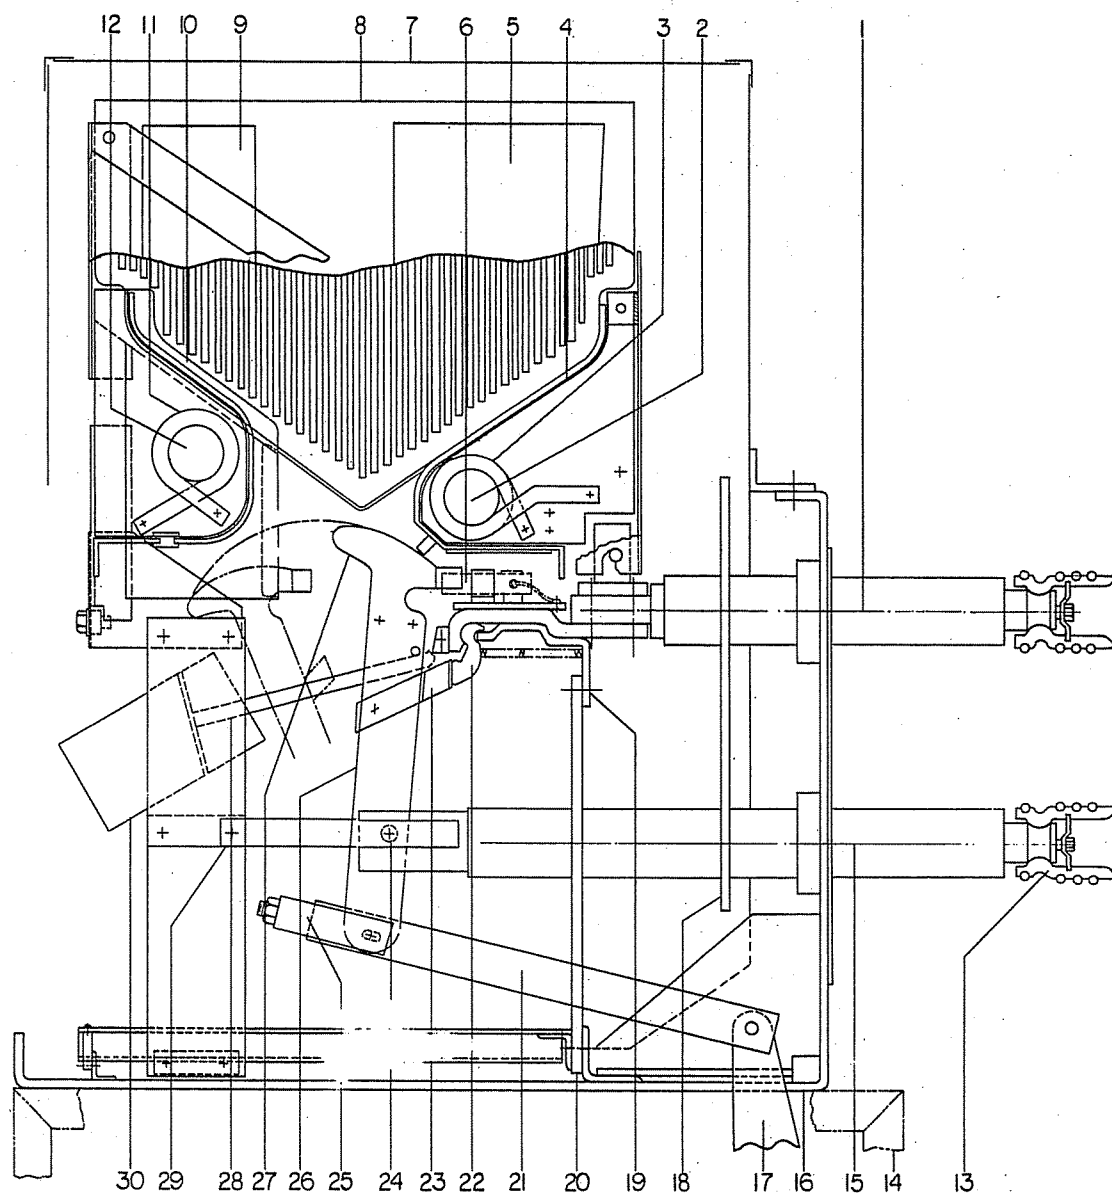

Fig. 10 (0121C8153) Cross Section of Breaker Pole Unit
As the breaker opens to interrupt a current, the arc first starts at the arcing contacts (6 & 27) Figure 10, transfers to the arc runner (4 & 10) and energizes the blow-out coils (3 & 11). This action introduces a magnetic field between the pole pieces 5 & 9) of the interrupter that forces the arc deeper into the arc chute (8). At the time the arcing contacts part a discharge of air is expelled through the booster tube (28) across the arc. This air flow assists the arc transfer and interruption by blowing the arc away from the contacts and into the arc chute. The magnetic field forces the arc deeper into the interrupter along the diverging arc runners.